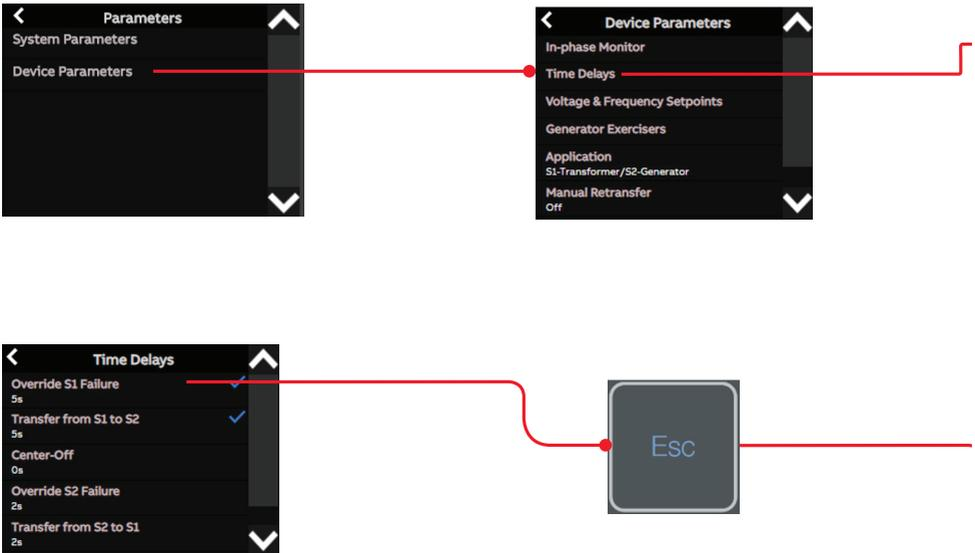

Fig. 5
Settings can be changed via the HMI as shown in Figure 5 and 6. See section 4 of the ZTS(D) O&M for further detail. A password is required to change parameters; the default password is 00001. Alternatively, settings can be changed with Ekip Connect 3 software using Ekip Programming module.